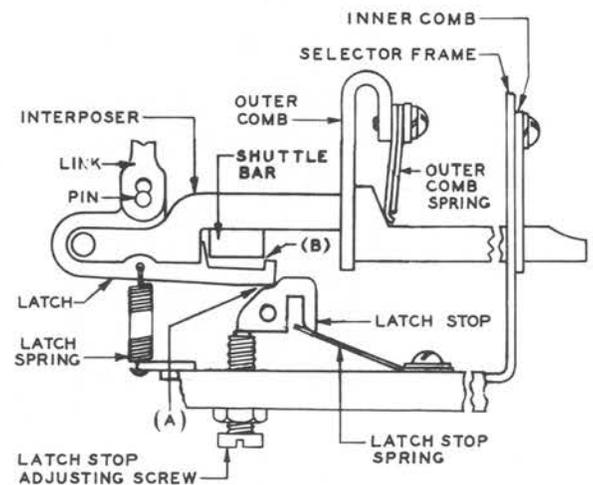

Fig. 45—Latch Spring Tension
**2.64 Latch Spring Tension:** With the latch in the normal position, tension of the latch spring measured just as the latch [Fig. 45, (A)] begins to move shall be
(a) When the shuttle bar moves inward [Fig. 45, (B)], the latch shall clear the shuttle bar. Gauge by eye. To check the requirement, proceed as follows.
(1) If checking the perforator *front* latches, pull *up* on the motor belt moving the
(2) If checking the perforator *rear* latches, pull **down** on the motor belt moving the shuttle bar inward until shuttle bar is over the tip of latch.
(3) Using a KS-6320 orange stick, hold the interposer down and manually operate the associated selector magnet armature. The requirement is considered met if latch movement can be detected.
(b) When the latch is in the normal position [Fig. 45, (A)], the latch shall rest on the step of the latch stop. Gauge by eye.